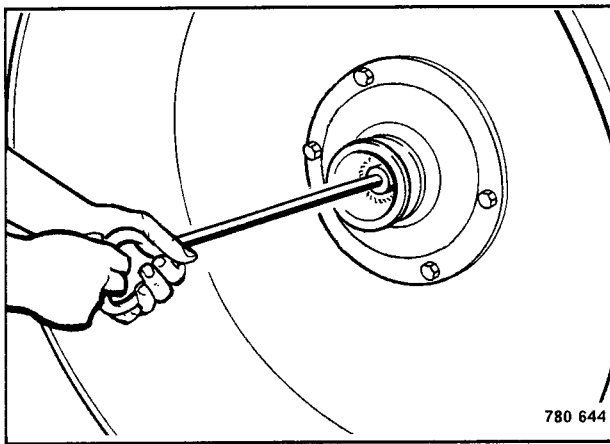

Fig. 10
1. Turn an eye bolt (Fig. 10) into the bore in the vibrator shaft to measure the end float.